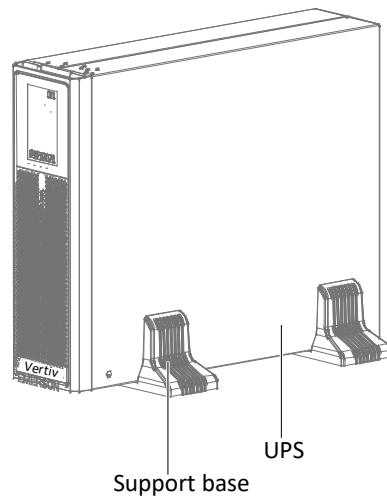

Figure 2-5 UPS Installation complete
2. Place the UPS on the support bases and support base extensions, as shown in Figure 2-5.